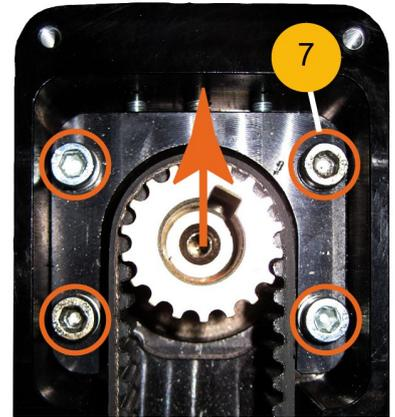

Figure 27: Screws for fixation of drive unit ETH032...ETH080
- ◆ Screw in the screws (please refer to Figure 27 Pos.7) without torque, so that the drive unit can be lifted upwards
- ◆ Tighten 4 screws (please refer to Figure 27 Pos.7) with the given tightening torque (please refer to Table 3).
- ETH032...ETH080: see Figure 27, Pos 7
- ◆ The screws (please refer to Figure 27 Pos.7 ETH100&125; see Figure 28, Pos7) must be screwed in without torque, so that the drive unit can be lifted upwards.
- ◆ ETH032...ETH080: Completely tighten the four screws (please refer to Figure 27 Pos.7. screw tightening torques and Table 3.)